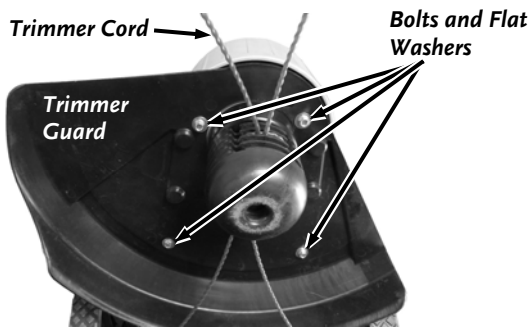

Figure 28
3. Remove the four Trimmer Guard Bolts and Flat Washers with a 3/8" Wrench. Remove the Trimmer Guard (Figure 28).
14. Position the Trimmer Guard and secure with the four Bolts and Flat Washers using the 3/8" Wrench (**Figure 28**).